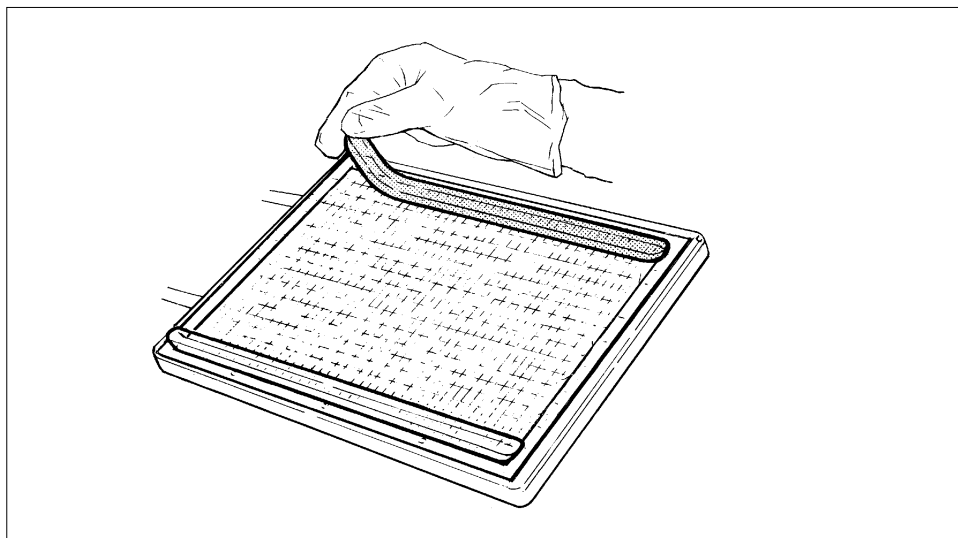

Fig. 27.
- Place the anodic buffer strip on the anodic side of the gel (this side of the gel has the notch cut from it). Avoid air bubbles between the gel and the buffer strips (Fig. 27). The smooth (narrower) side of the buffer strip should face down and contact the gel surface. Should the buffer strip break, it can be pieced together on the gel.